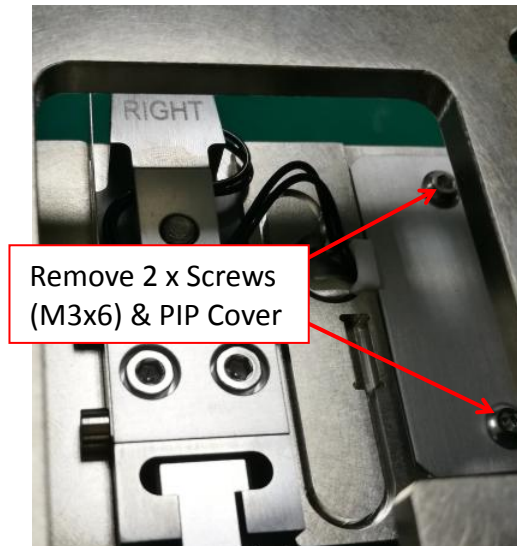

Figure 26 PIP Cover Removal
5. Remove 2 x Screws (M3 x 6) & PIP cover as shown in Figure 26.